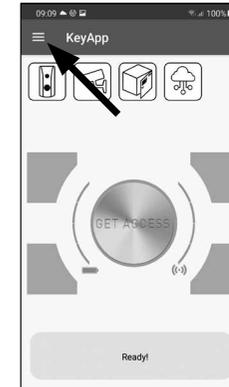

Fig. 5
- Open the main menu (Fig. 5).